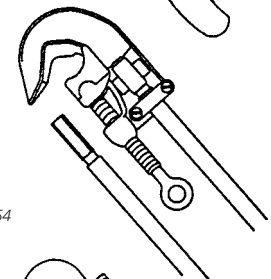

Figure 55
2. Some clamps require a threaded stud. For this style, a threaded silicon bronze stud is welded to the conductor end with a CADWELD connection (Figure 55). These clamps do not provide a means of cable support. A heat shrink is therefore applied to the conductor over the insulation and CADWELD connection.